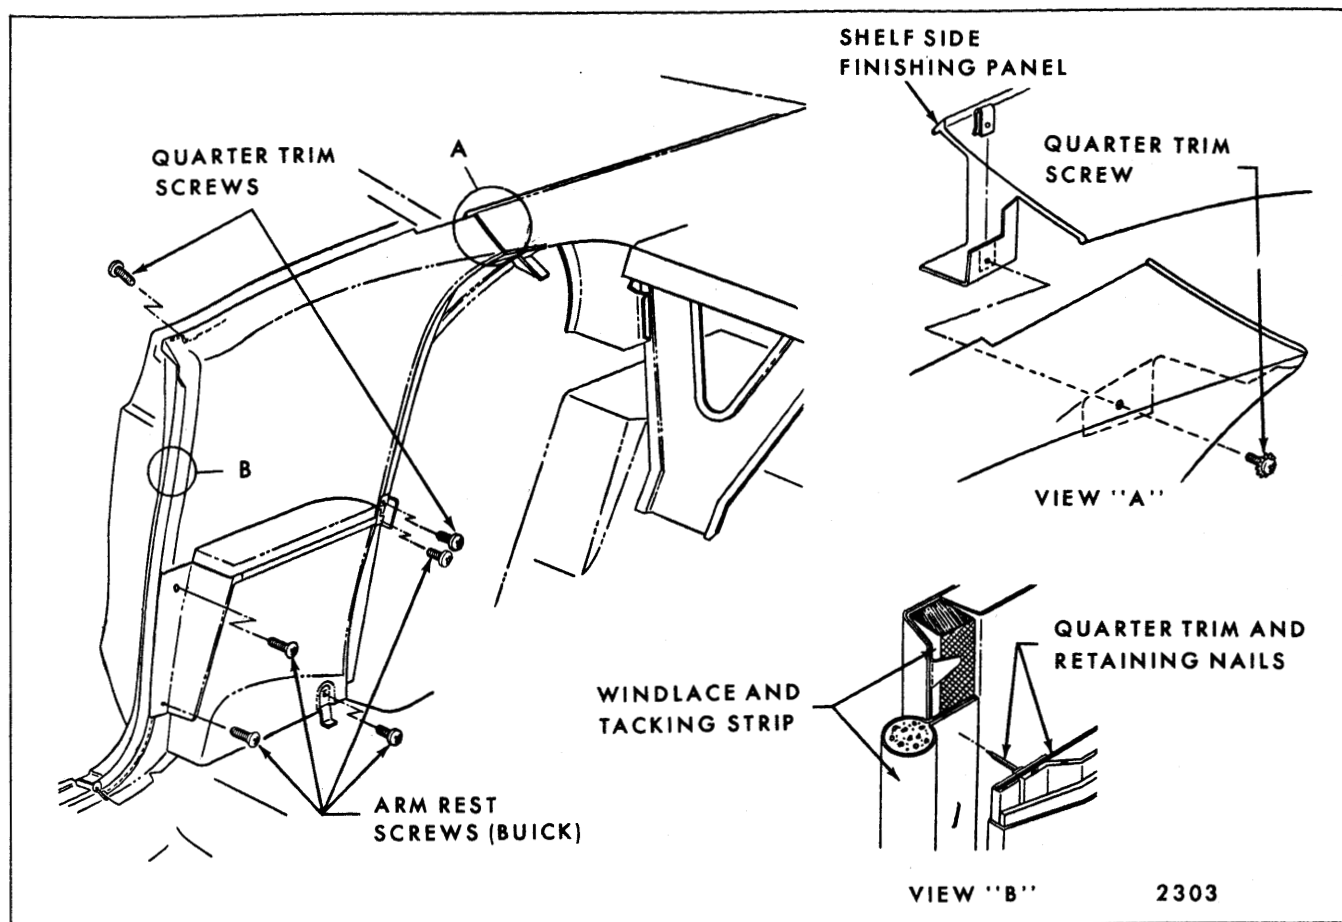

Fig. 8-11—Rear Quarter Arm Rest and Trim Assembly - "E" Body
4. Remove rear quarter trim assembly attaching screws (Fig. 8-11 and 8-10). Use trim panel removing tool (J-6335) or equivalent to carefully pry trim assembly retaining nails (Fig. 8-11) from tacking strip along body lock pillar; then lift trim assembly upward to disengage from retainers at top of rear quarter inner panel and remove assembly from body.
3. a. On Oldsmobile 39487 Style remove seat back filler panel attaching screws (Fig. 8-11) and remove filler panel.